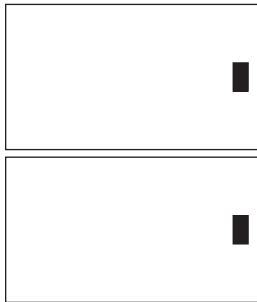

Figure 13
Install (2) solar panels with both power converters on the back facing North for easy panel interconnection. (Figure 13)